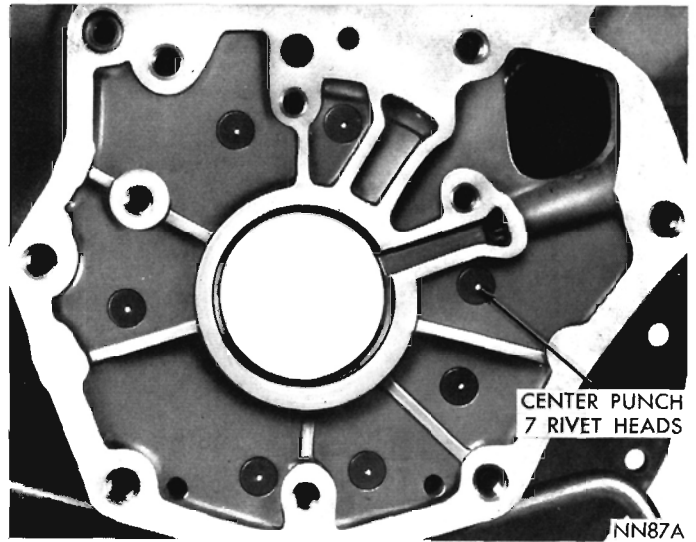

Fig. 87—Center Punch Rivet Heads (A-904)
(1) Remove four bolts securing output shaft support to rear of the transmission case. Drive support rearward out of the case with a wood block and hammer.
(2) Center punch the rivets **exactly** in center of each rivet head (Fig. 87).
(3) Drill through each rivet head with a 3/8 inch drill. **Be careful not to drill into the transmission case.** Chip off rivet heads with a small chisel, then drive rivets and cam from the case with a blunt punch of proper size.
(4) Carefully enlarge rivet holes in the case with a 17/64 inch drill. Remove all chips and foreign matter from the case, make sure cam area is free of chips